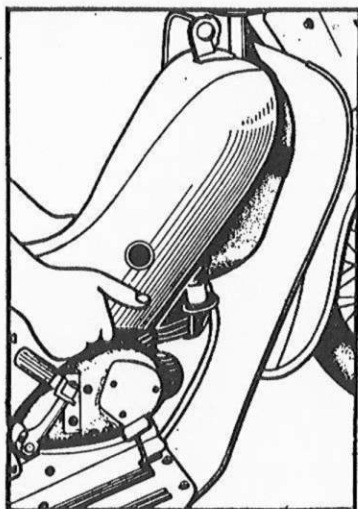

Fig. 8
Having rotated partially the safety pin backward, grasp the front cowl (1) on the lower part which is to be slightly extended and lifted (fig. 8). Pull then the whole cowl backward till a hook in its upper part is thrown out of frame hole.